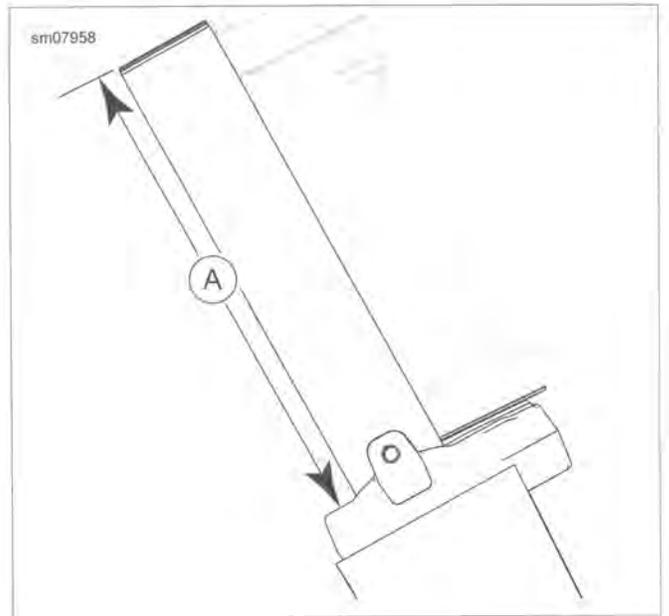

Figure 2-68. Measured Fork Height
- Measurement method: See Figure 2-68. Set top of fork to a measurement (A) of 8.695 +/- 0.060 in (220.85 +/- 1.52 mm) from the top rear of the lower fork bracket.